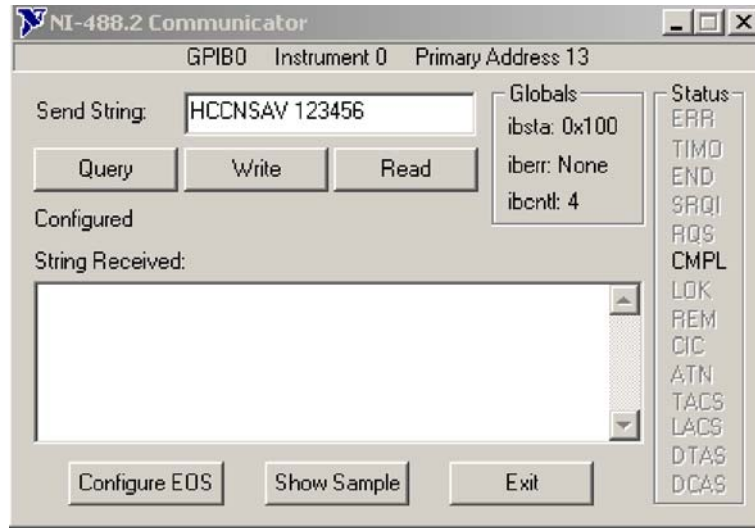

Figure 4-4. Send-Receive Dialogue
7. In the Send String box (Figure 4-4), type the commands listed below and use the Write or Query button to send and receive data to and from the power meter.